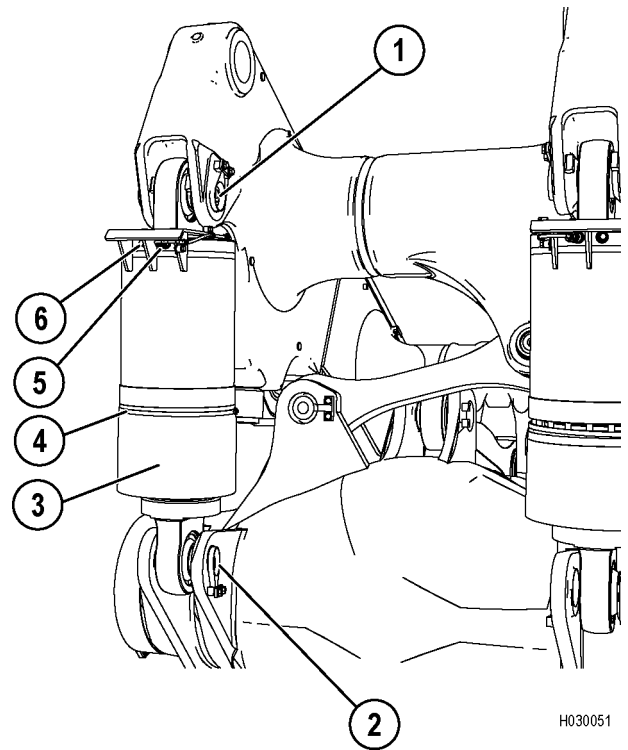

FIGURE 3-3. REAR SUSPENSION
4. Remove pressure sensor (5, Figure 3-3) and remove the clamps securing the sensor harness to the suspension.
5. Remove the upper pin retainer and remove upper pin (1).
7. Remove the lower pin retainer and remove lower pin (2). Lift the suspension from the truck.
2. Lift the suspension into position on the truck. Lubricate lower pin (2, Figure 3-3) with multi-purpose grease and install the pin. Install the pin retainer and cap screws.
3. Lubricate upper pin (1) with multi-purpose grease and install the pin. Install the pin retainer and cap screws.
2. Remove clamp (4, Figure 3-3) and cover (3).
3. Remove charging valve (6) and the pressure sensor schrader valve from the suspension. Drain the oil from the cylinder.